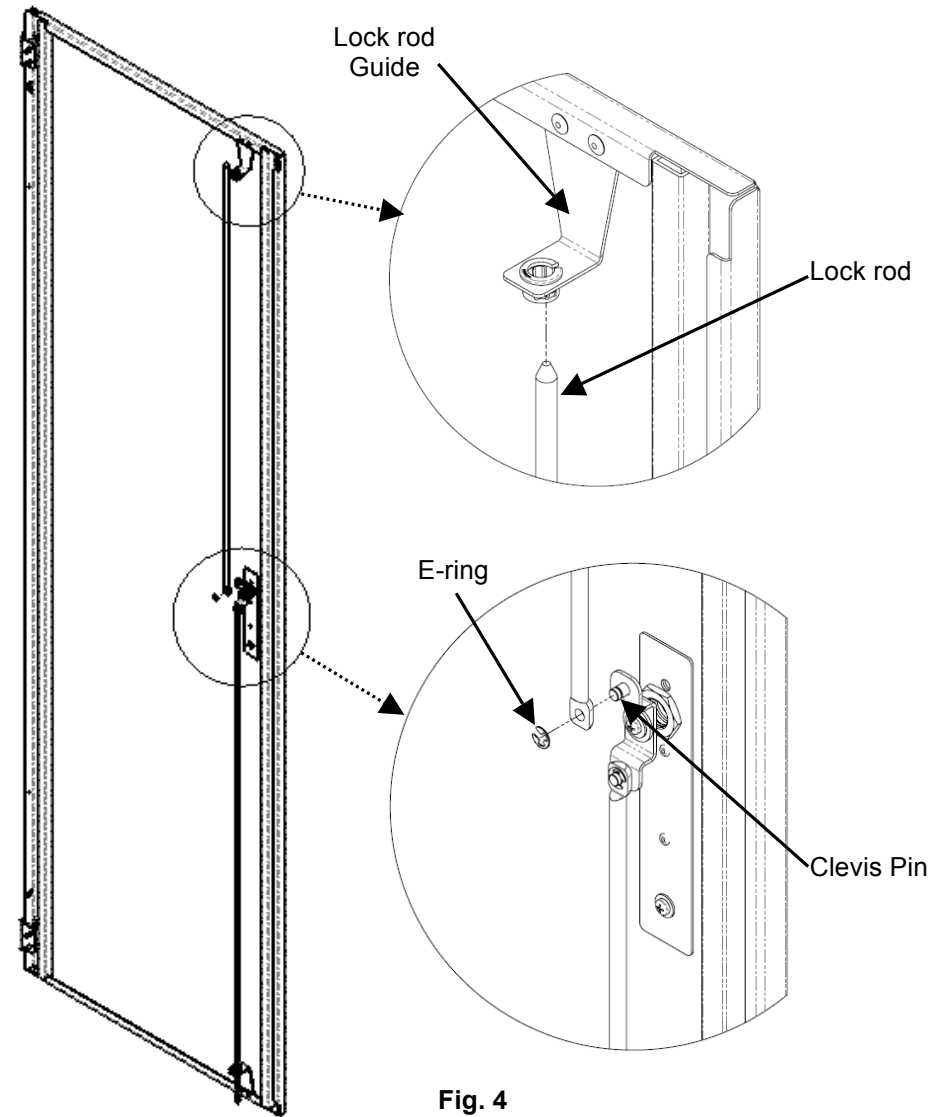

Fig. 4
6. Insert the lock rods through the guides, with the short rod on the top and the long rod on the bottom (Fig. 4).
7. Insert the cam assembly pins through the short rod (on top) and the long rod (on bottom), then through the other half of the cam assembly (Fig. 4) and locked with-ring.